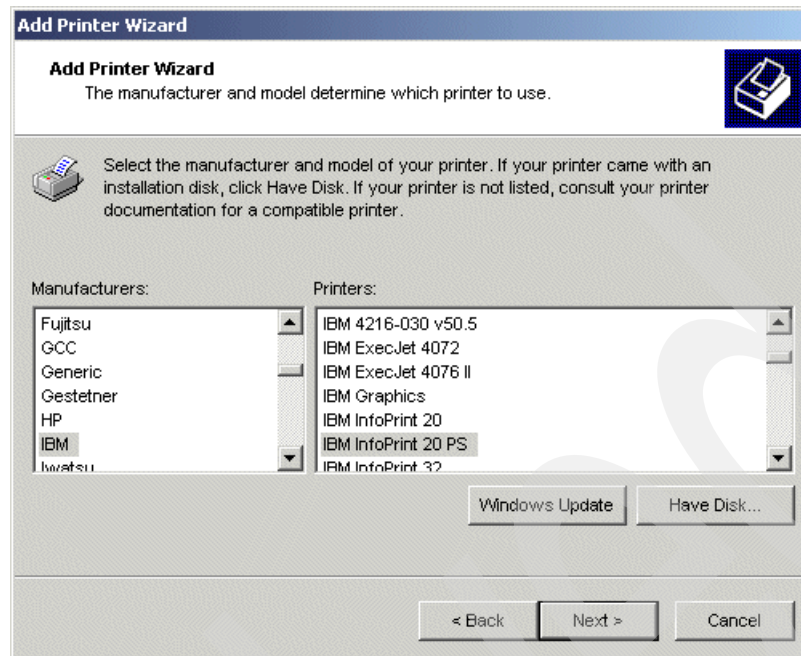

Figure 125. Selecting the print manufacturer and model for LPR port
7. Select a printer driver as shown in Figure 125.